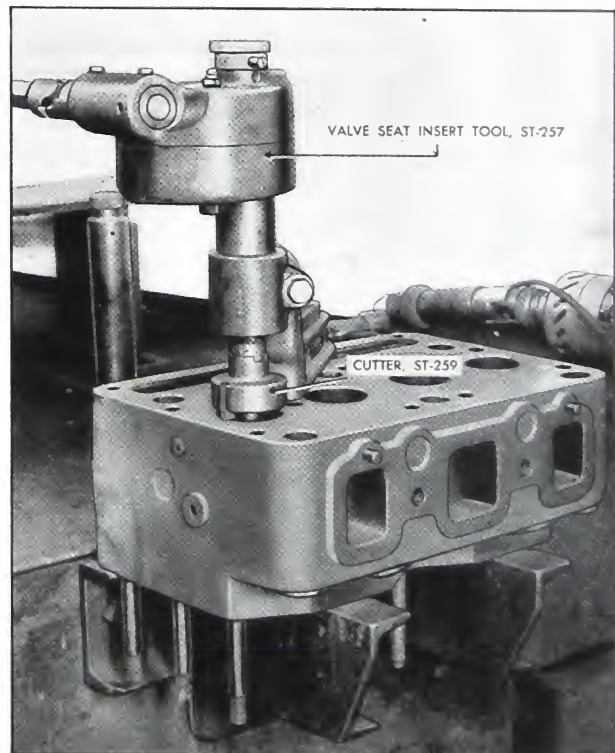

Fig. 3-15. Counterboring head for valve seat insert
3. ST-257 Valve Seat Insert Tool is needed to hold and drive the cutters. This tool must be driven by an electric motor. See Fig. 3-15.